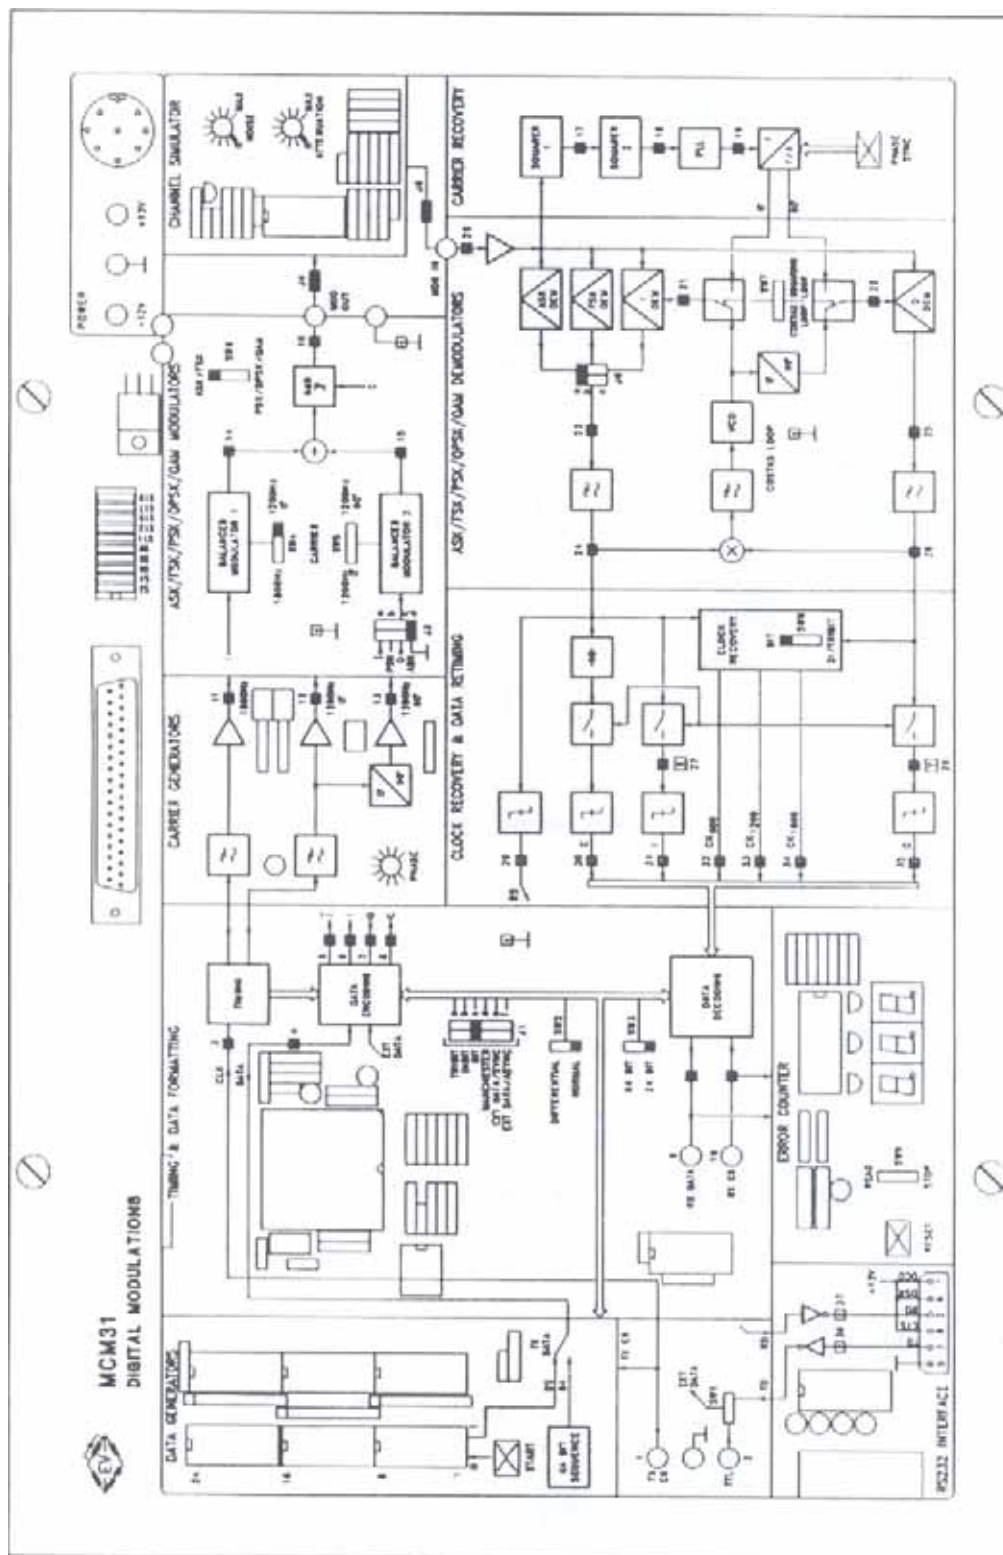

Figure 1
- Power on module. See Figure 1.